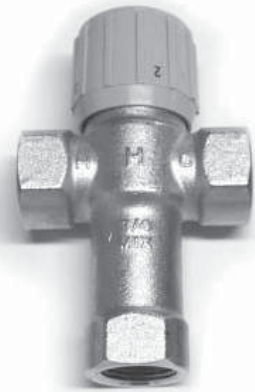

Figure 7 - Thermostatic Mixing Valves installed at each point-of-use can help prevent scalds.
- Point-of-use Thermostatic Mixing Valves (Figure 7 on page 8)
Install Thermostatic Mixing Valves (Figure 7) to regulate the temperature of the water supplied to each point-of-use (for example, kitchen sink, bathroom sink, bath, shower). Consult the valve manufacturer's instructions or a qualified person.